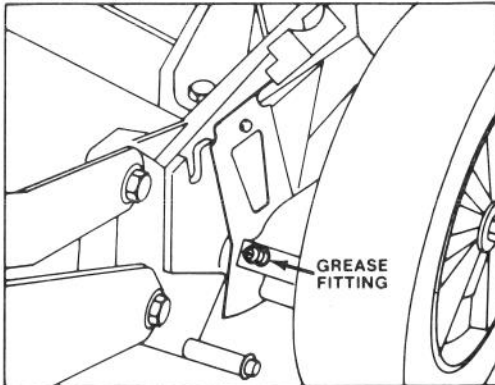

Figure 21
2. Move rear wheel height-of-cut levers to center setting. Wipe grease fittings with clean rag (Fig. 21). Install grease gun onto fitting and gently apply 1 pump of #2 Multi-Purpose Lithium Base Grease. Excessive grease pressure may damage seals.